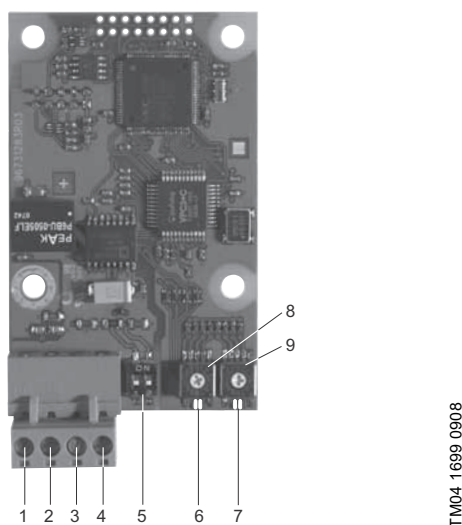

Fig. 8 CIM 150 PROFIBUS module
The power supply (pos. 4, fig. 8) must only be used for external termination.
CIM 150 PROFIBUS has two LEDs. See fig. 8.